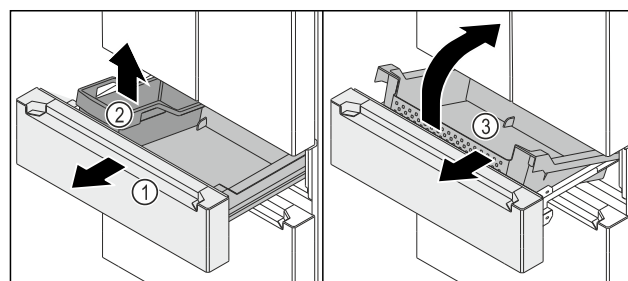

Fig. 156
- Pull out the pull-out cart Fig. 156 (1) as far as it will go.
- Remove the FlexBox Fig. 156 (2).
- Lift up the container Fig. 156 (3) at the front.
- Remove the container *Fig. 156 (3)* diagonally from the front.